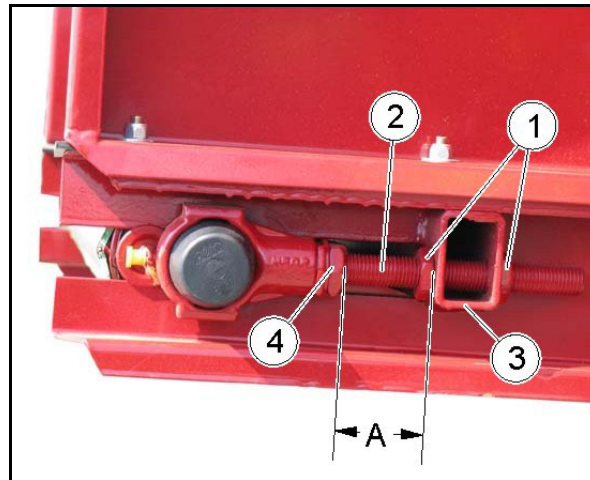

Fig. 95
- Straighten the conveyor by means of the clamping screws (Fig. 95/2) if the conveyor is not running straight or is rubbing along the frame.